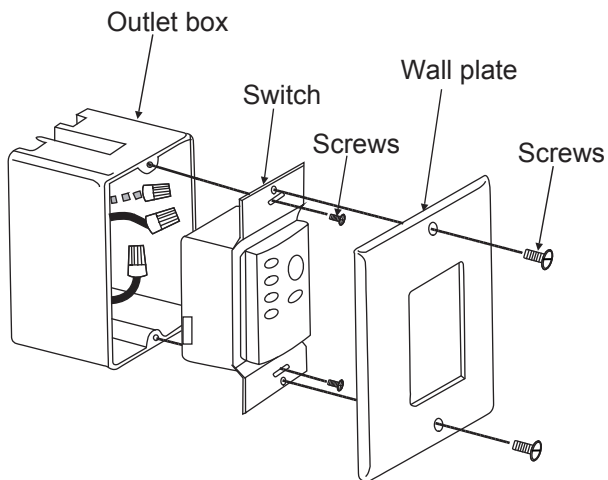

Fig. 26
**Step 2.** Install the wall plate on the existing wall outlet box using the screws provided. (Fig. 26)